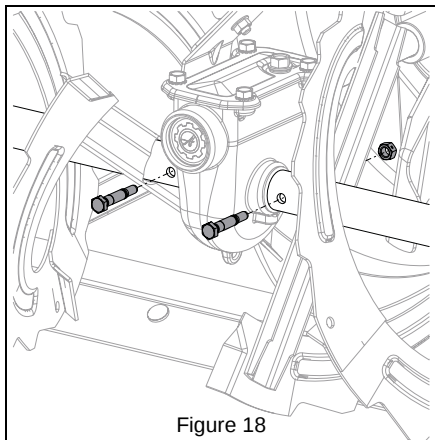

Figure 18
1. Remove shear bolt nuts and bolts. See Figure 18.
**IMPORTANT:** Ariens recommends using only Ariens OEM shear bolts when replacing shear bolts. See *Service Parts* on page 14. See Figure 18.